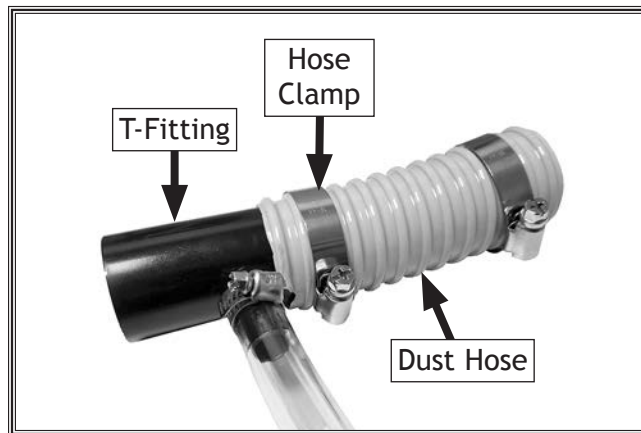

Figure 5. Dust hose placed over T-fitting port.
4. Place (2) 1½" hose clamps around dust hose, then slide one end of hose over (1) ½" port on T-fitting (see Figure 5).